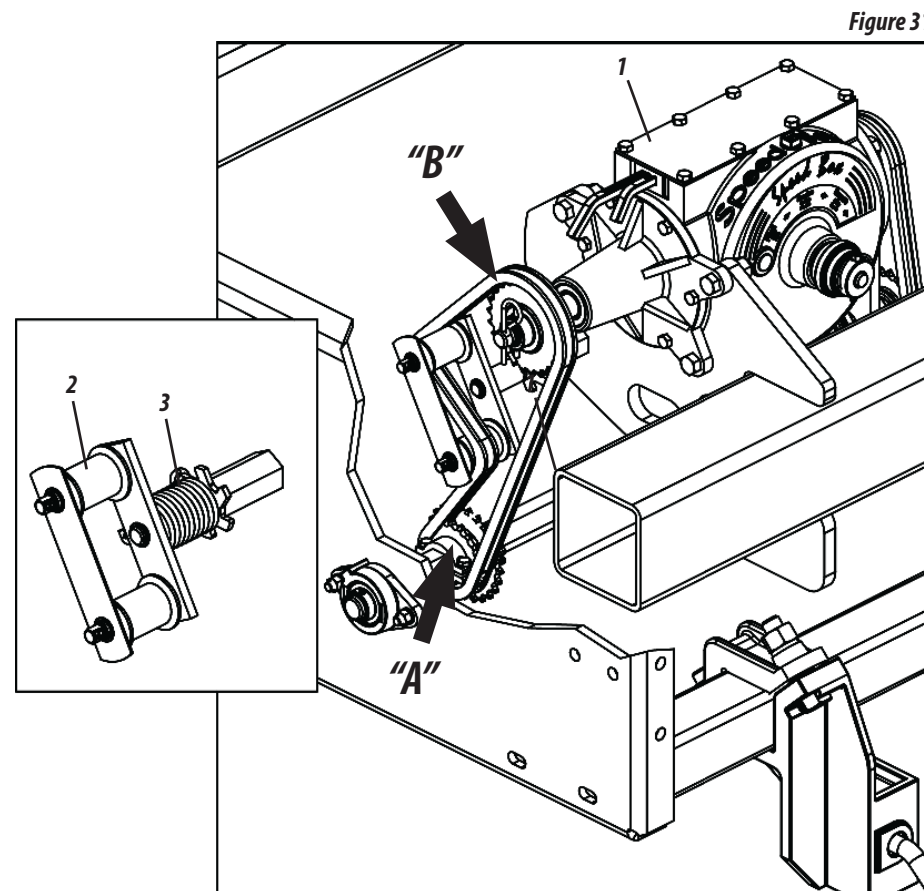

Figure 31
- 39 - The fertilizer adjustment is made by the Speed Box (1). To make further adjustments, reverse current in the motor "A" and moved "B" gear as shown in Figure 31.
- 40 - After changing the gears, check the chain tension. The tensioner (2) is provided with a torsion spring (3) to provide increased flexibility.